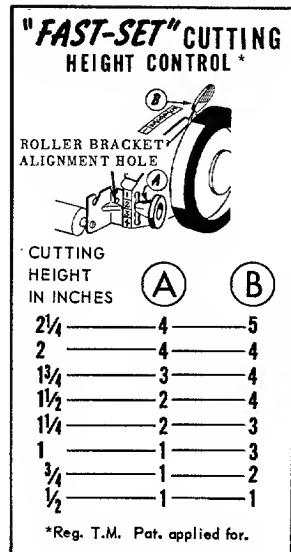

FIG. 3.A
1. Consult the chart located on underside of handle cover, the roller adjusting knobs (A) and wheel adjusting levers (B) must be in positions shown for desired cutting height. EXAMPLE: for 1 1/2" cutting height roller knob must be in No. 2 position, and wheel lever must be in No. 4 position. (Fig. 3 and Fig. 3A)